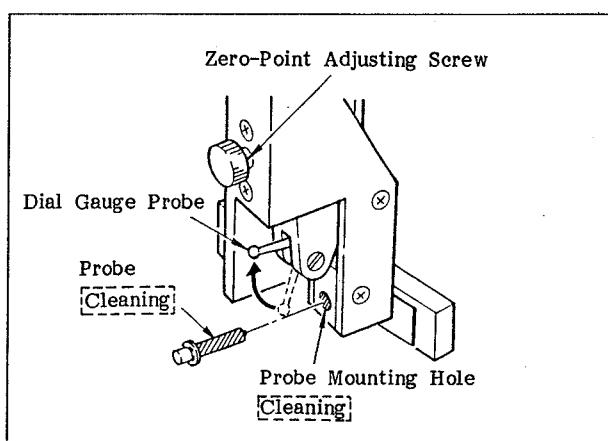

Fig. 5-20 Cleaning the Probe
- a. Move the dial gauge probe as shown in Fig. 5-20 and remove the probe.